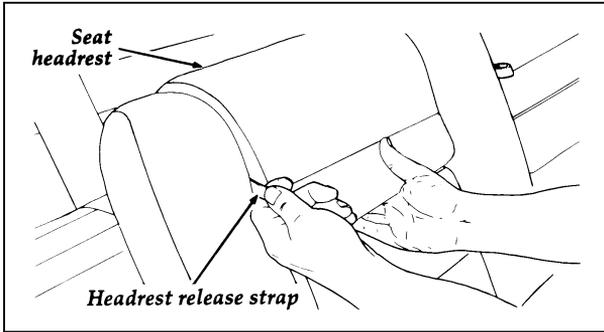

Figure 1
1. Pull the headrest release strap and grasp the headrest as shown in Figure 1. Then release the strap and rotate the headrest fully until the latch “clicks” in the full up position.